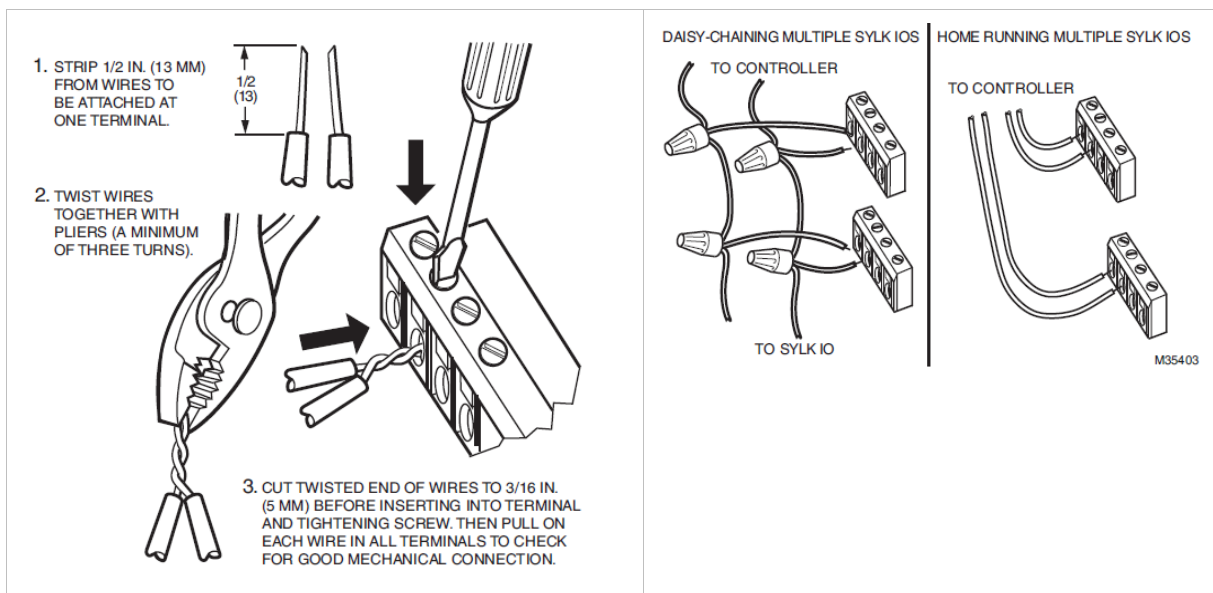

Figure 4: Attaching two or more wires at terminal blocks.
- When attaching two or more wires to the same terminal, other than 14 AWG (2.0 sq mm), be sure to twist them together. Deviation from this rule can result in improper electrical contact (see Fig. 4).
3. If two or more wires are being inserted into one terminal location, twist the wires together a minimum of three turns before inserting them (see Fig. 4).